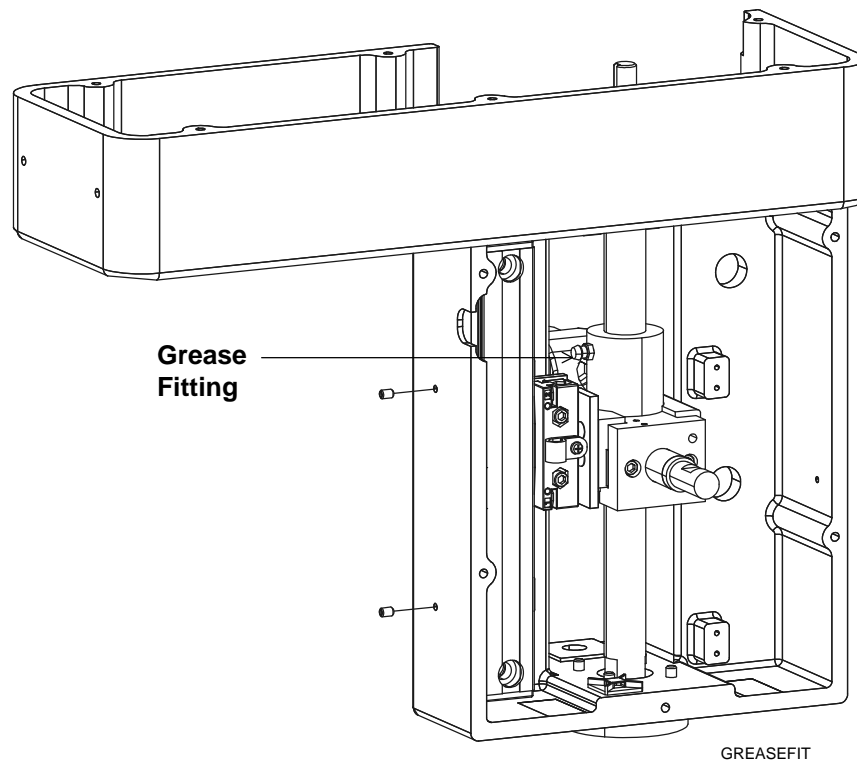

Figure 3-32, Quick Disconnect Downfeed Grease Fitting
2. Place the tip of the grease gun into the grease fitting on the ballscrew nut. Refer to **Figure 3-19, Z-Axis Quick Disconnect Downfeed Ballscrew Assembly** and **Figure 3-32**.